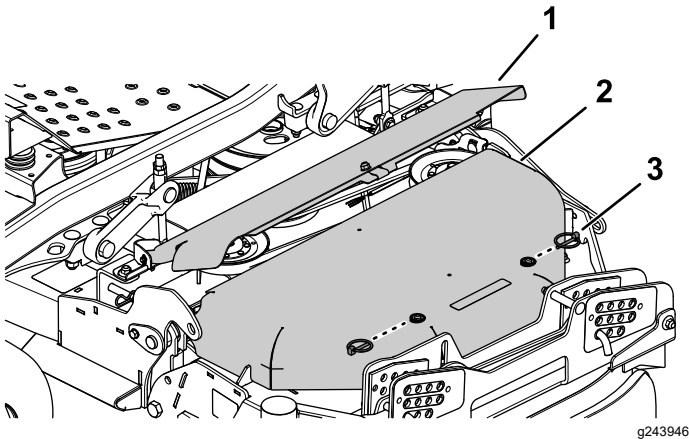

Figure 61
4. Remove the 2 lynch pins from the outer belt cover and remove the outer cover (Figure 61).
5. Rotate the inside belt cover upward (Figure 61).